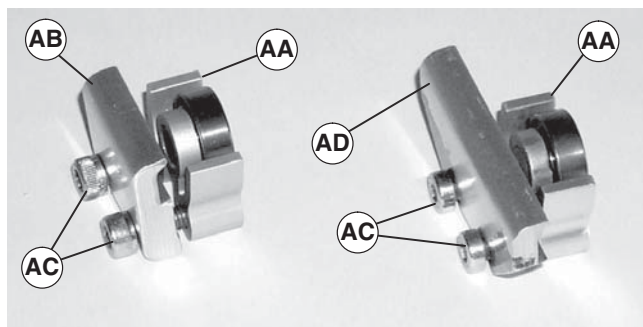

Figure 13
2. Loosely attach clip (Figure 13, item AB or AD) on guard (AA) with two screws (AC). Do not tighten screws.